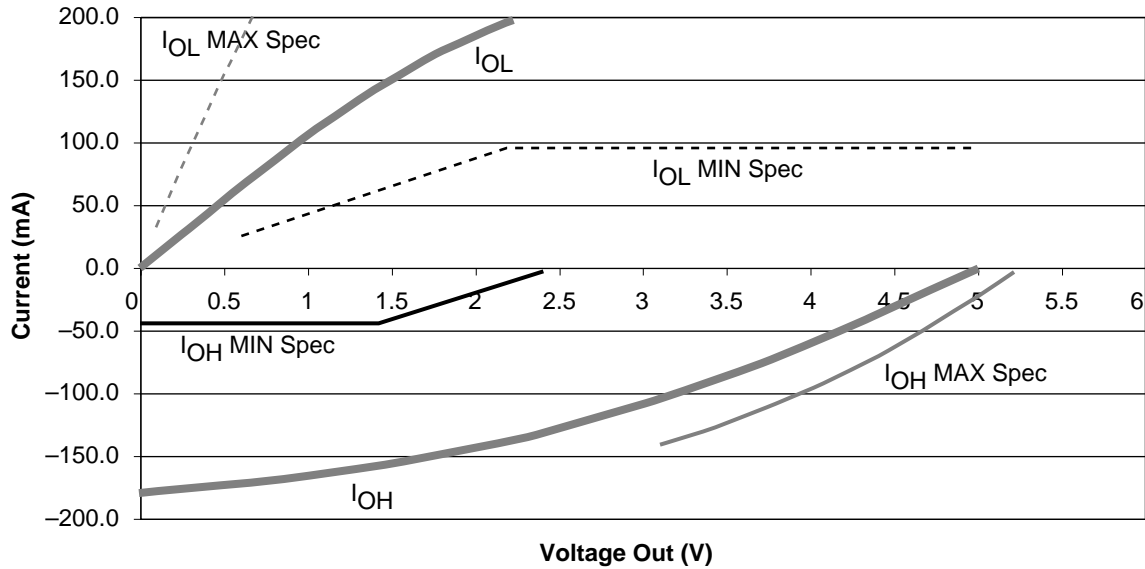

Figure 13 • 5V PCI V/I Curve for SX-A Family
1. Refer to the V/I curves in Figure 13 on page 18. Switching current characteristics for REQ# and GNT# are permitted to be one half of that specified here; i.e., half size output drivers may be used on these signals. This specification does not apply to CLK and RST#, which are system outputs. "Switching Current High" specifications are not relevant to SERR#, INTA#, INTB#, INTC#, and INTD#, which are open drain outputs.
3. Maximum current requirements must be met as drivers pull beyond the last step voltage. Equations defining these maximums (A and B) are provided with the respective diagrams in Figure 13 on page 18. The equation defined maxima should be met by design. In order to facilitate component testing, a maximum current test point is defined for each side of the output driver.
Figure 13 shows the 5V PCI V/I curve and the minimum and maximum PCI drive characteristics of the SX-A family.